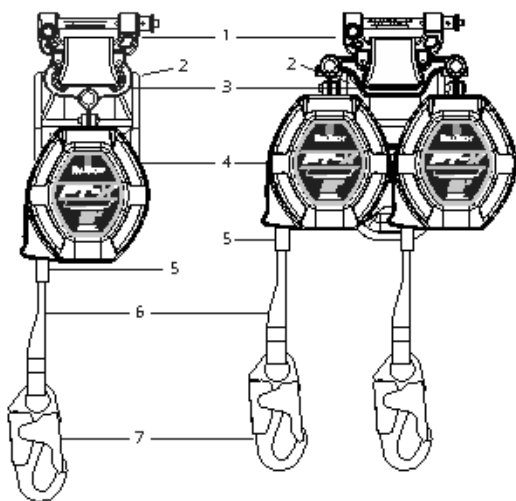

Figure 2 - About the FT-X® EdgeCore™ Class 2 Leading Edge SRL-P
As shown in Figure 2 below, the FT-X EdgeCore has a nylon housing that contains a synthetic lifeline wound onto a spring tensioned drum. The FT-X EdgeCore lifeline is equipped with a lifeline stop and a leg-end connector. When the user is attached, the lifeline extends and retracts with the user movement, automatically maintaining taut lifeline. If a fall occurs, a centrifugal pawl system engages, stopping the lifeline payout. In a fall event, the SRL-FBH Connector will break away from the Shear Connector, and the integral Energy Absorber (EA) will deploy, gradually slowing and arresting the fall.